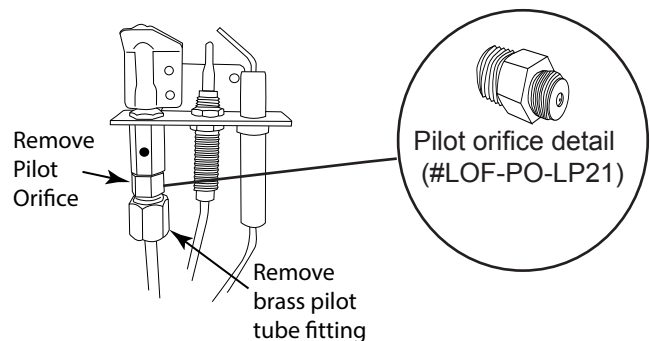

**Fig. 5** Pilot orifice location.
**Step 9:** First, remove the brass nut from the pilot tube assembly. Then, unscrew the pilot orifice and replace it with new LP orifice. Finally, reattach the pilot tube fitting to the pilot assembly. See Fig. 5.